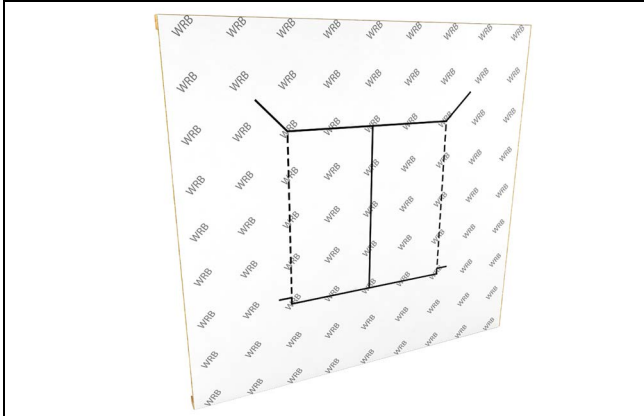

Figure 1
1. Make horizontal cuts to the Weather Resistive Barrier (WRB) across the top and bottom of the Rough Opening. See Figure 1.